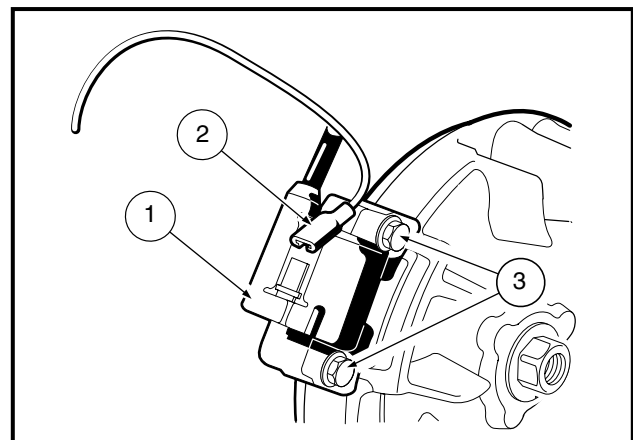

Figure 13-6 Ignition Coil
2. Disconnect the ignition coil (1) from its primary lead wire at the connector (2). Remove the two bolts (3) and take out the ignition coil (**Figure 13-6, Page 13-6**).